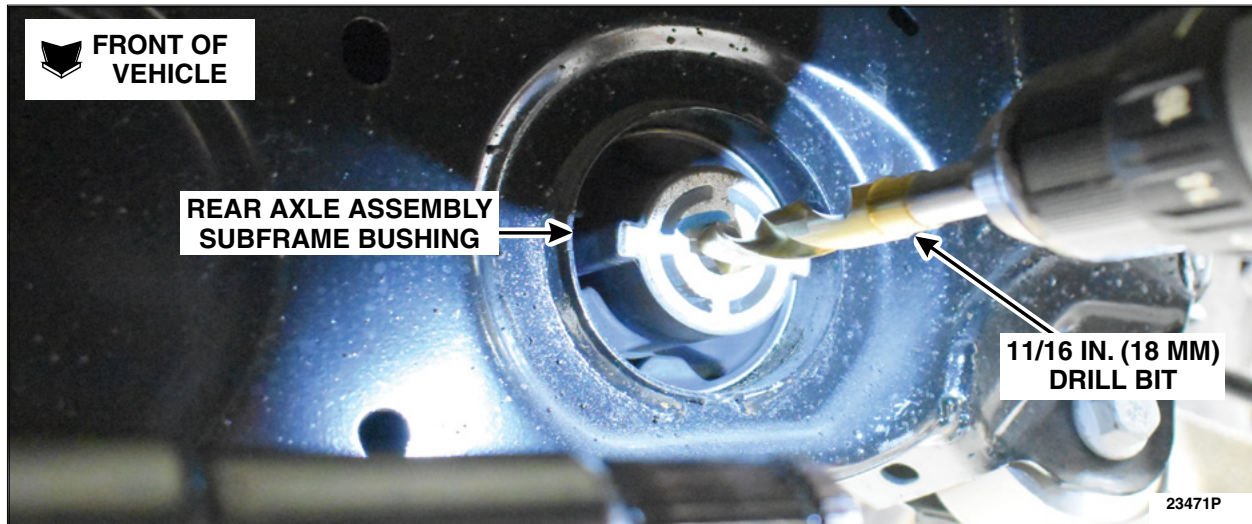

FIGURE 16
23. Using an 11/16 in. (18 mm) or larger drill bit, drill out the rear axle assembly subframe bushing hole. See Figure 16. Click on the video link to see the drilling process:
NOTICE: Make sure the tabs on the *new* rear axle assembly subframe bushing are horizontal with the subframe. See Figure 16.